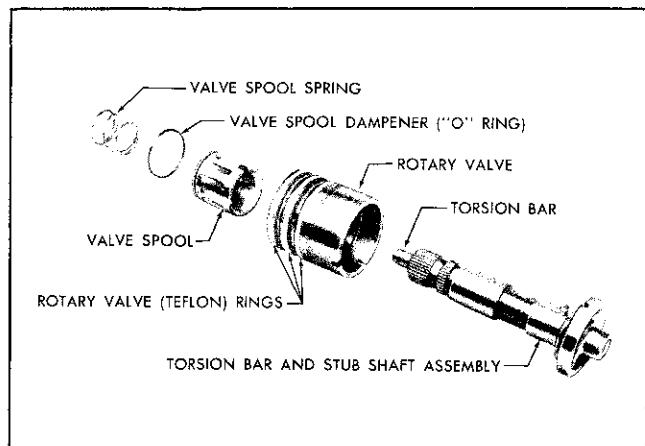

Fig. 9-56 Exploded View of Rotary Valve
4. Remove stub shaft, torsion bar (small diameter bar extending through stub shaft) and valve cap assembly by tapping end of torsion bar lightly with a plastic hammer. This will dislodge the cap from valve body cap pin (Fig. 9-56). Do not disassemble stub shaft assembly. The parts are pinned together and are serviced as an assembly.
4. Assemble stub shaft assembly in valve body aligning groove in valve cap with pin in valve body (Fig. 9-56). Press on cap until cap is against shoulder in valve body with valve body pin in cap groove. Hold these parts together during remainder of assembly.